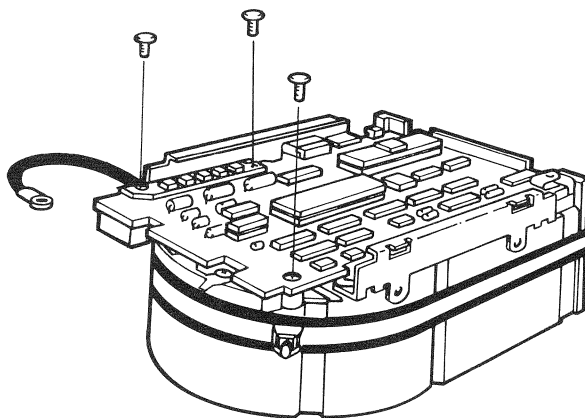

Figure 10-12 Removal of Phillips Screws from Heatsink
5. Remove the three Phillips screws from the heatsink, the grounding strip, and the corner opposite the heatsink (Figure 10-12).